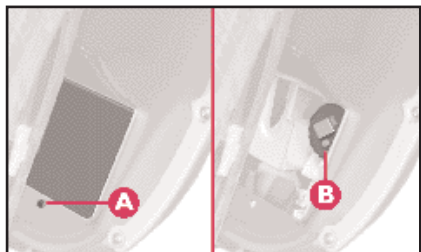

fig. 17
2) Unscrew screw **A** (fig. 17) in the cover on the wheelarch.